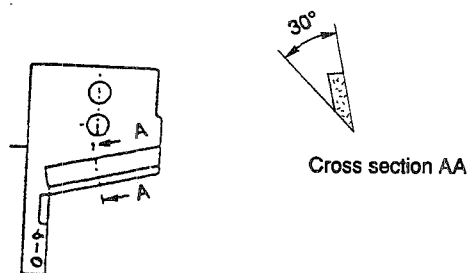

Fig. 1-4
<p>2) Remove screws ① from the belt-loop support. Then remove belt-loop support ②.  Remove screw ③ from the knife presser spring collar. Then, remove knife presser spring ④ and the moving knife.  Installation is carried out analogously in reverse order.  If, when attaching moving knife ⑤, the top surface is not flush with the underside of moving knife mounting base ⑥, loosen screw ⑦ and move moving knife mounting base ⑥ so that it is correctly positioned.</p> <p>3) Use a fine whetstone and grind the blade of the moving knife as shown in Fig. 1-4.</p> <p>(Caution) Carefully secure the knife on the whetstone so that the correct inclination angle (30°) of the knife is maintained.</p>